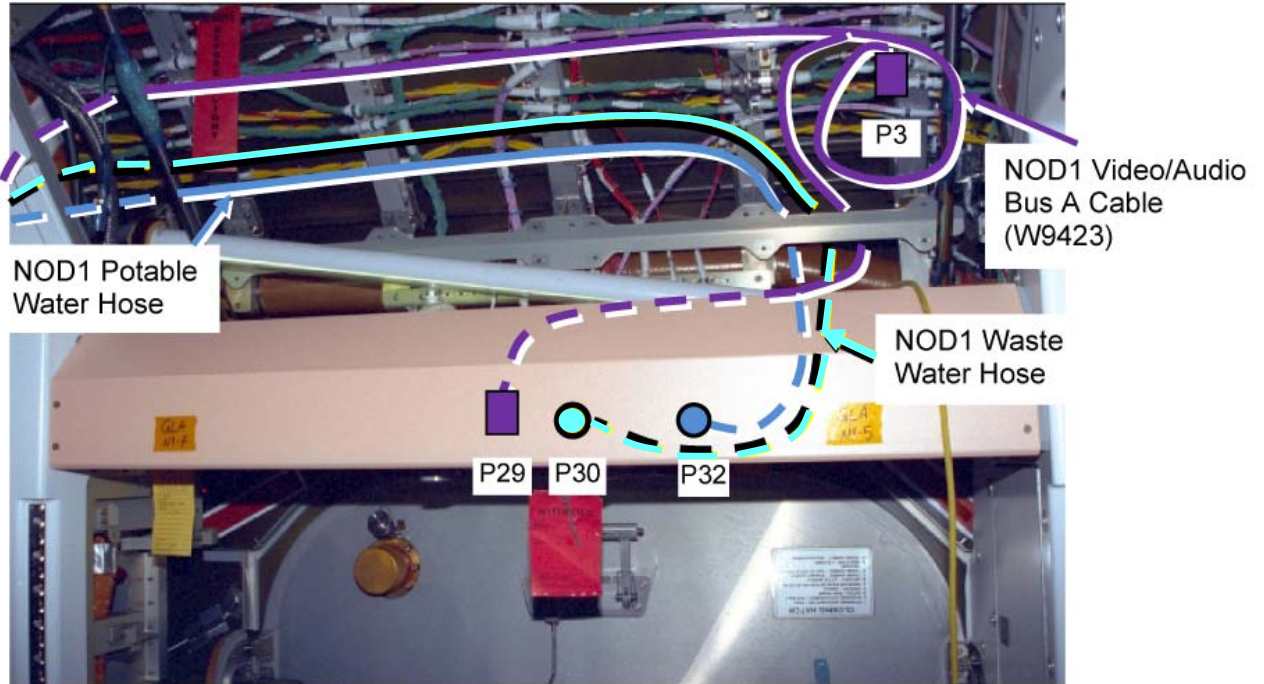

Figure 21.- Routing of Fluid Hoses in NOD1OP2 Area.
- NOD1P4 9.2 Route 90-degree Gamah connector of NOD1 Waste Water Hose from NOD1P4 to NOD1OP2 Bulkhead connector J30 - Waste Water. Refer to Figures 21 and 22 for recommended routing.
- NOD1OP2 9.3 Route 90-degree Gamah connector of NOD1 Potable Water Hose from NOD1P4 to NOD1OP2 Bulkhead connector J33 - Fuel Cell H2O. Refer to Figures 21 and 22 for recommended routing.
- NOD1P4 11.3 Locate P3 and P29 of NOD1 Video/Audio Bus A Cable (W9423). Route P3 and P29 from NOD1P4 to NOD1OP2 as shown in Figure 21.
- NOD1OP2 11.4 Coil and stow P3 leg of NOD1 Video/Audio Bus A Cable (W9423) at location shown in Figure 21.